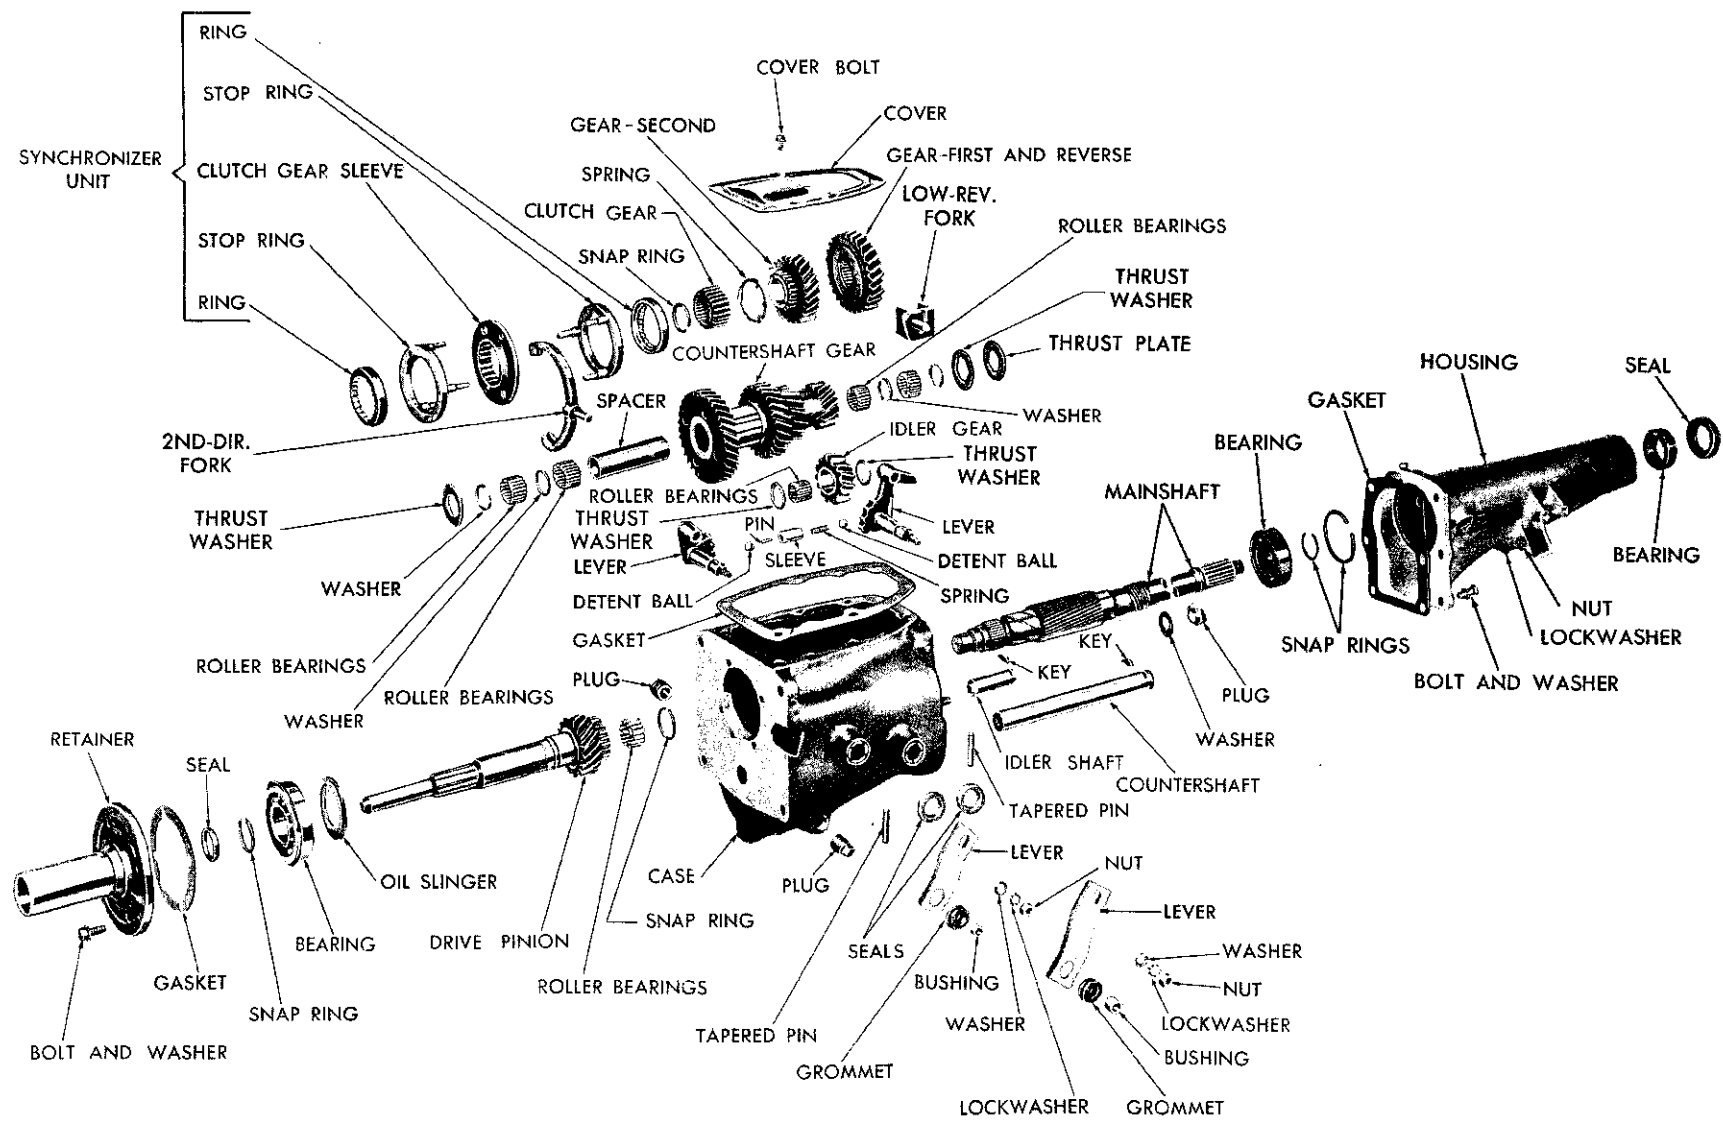

Fig. 1—Heavy Duty Transmission (Disassembled View)
The heavy duty three speed manual transmission (Figs. 1 and 2) is of the synchromesh type with helical cut gears to provide silent operation. The countershaft gear is in constant mesh and is sup-
2. DISASSEMBLY OF THE TRANSMISSION COMPONENTS PARTS (Fig. 1)